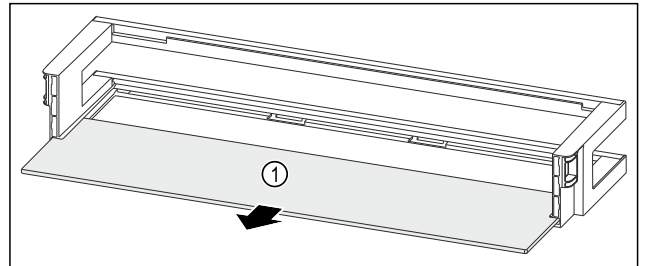

Fig. 116 Door rack with shelf
- Remove the shelf Fig. 116 (1).